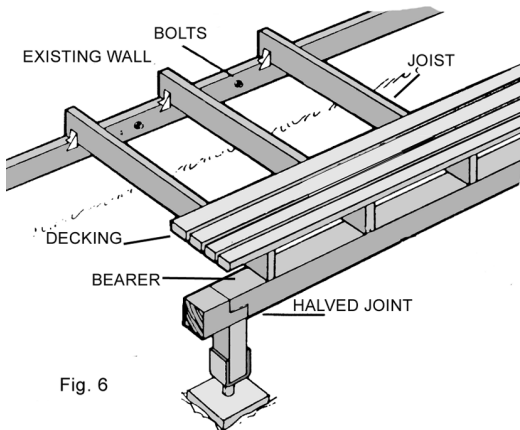

Fig. 6
Bolt bearers to railing posts using 10mm galvanised bolts. Attach bearers to other posts by skew nailing. Where a beam must be joined, all joints must be positioned over posts (Fig. 6)
**NOTE:** Bearers run parallel to the direction of decking boards, joists run at right angles to bearers and decking boards. (Fig. 6)